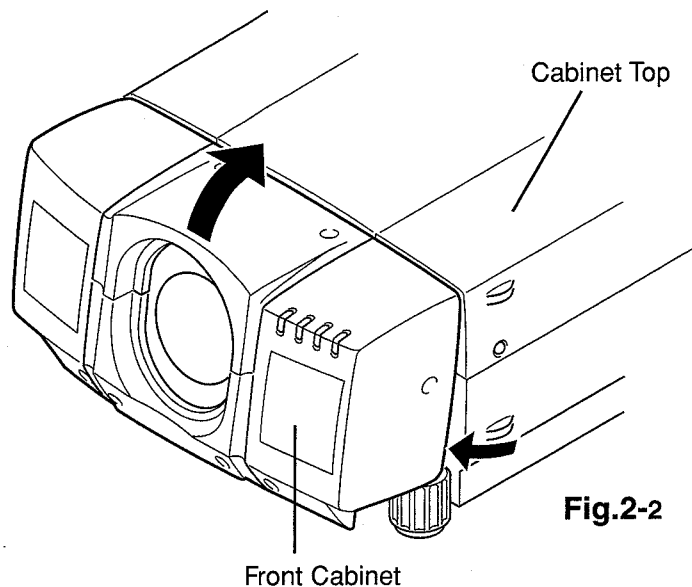

Fig.2-2
- 3) Pull the lower side of the cabinet front forward and remove it as shown in **Fig.2-2**. Lower part is engaged with the 3 hooks. Push the cabinet front downward slightly and pull the lower forward.